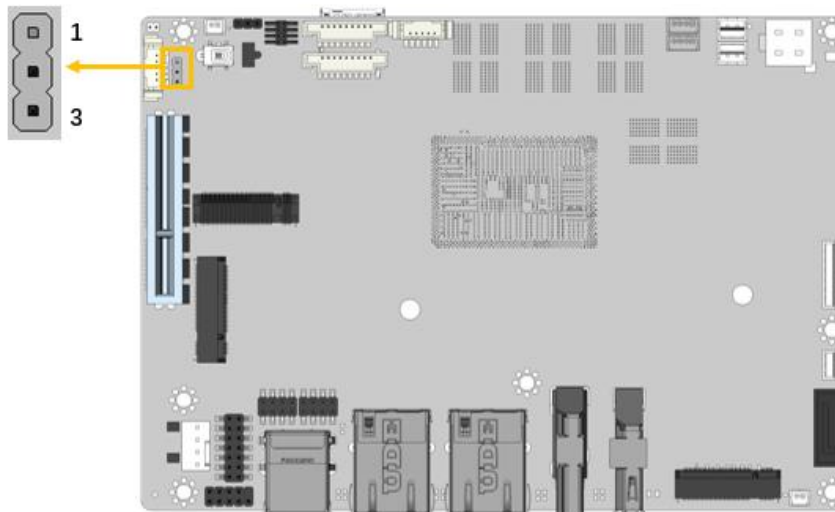

Figure 3-5: Flash Descriptor Override Setting Jumper Locations
- CN Location:** See Figure 3-5